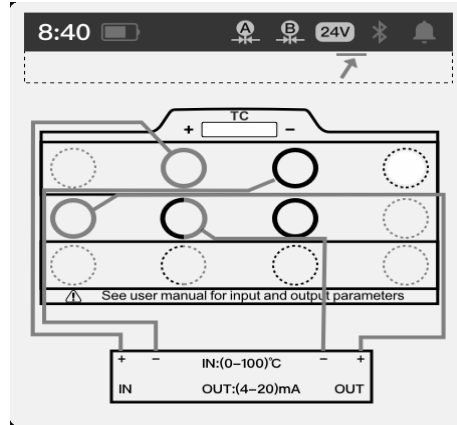

Figure 18 Temperature transmitter
- ◆ Connect the DUT with the measurement and output module of the calibrator, as shown in the Figure 18.